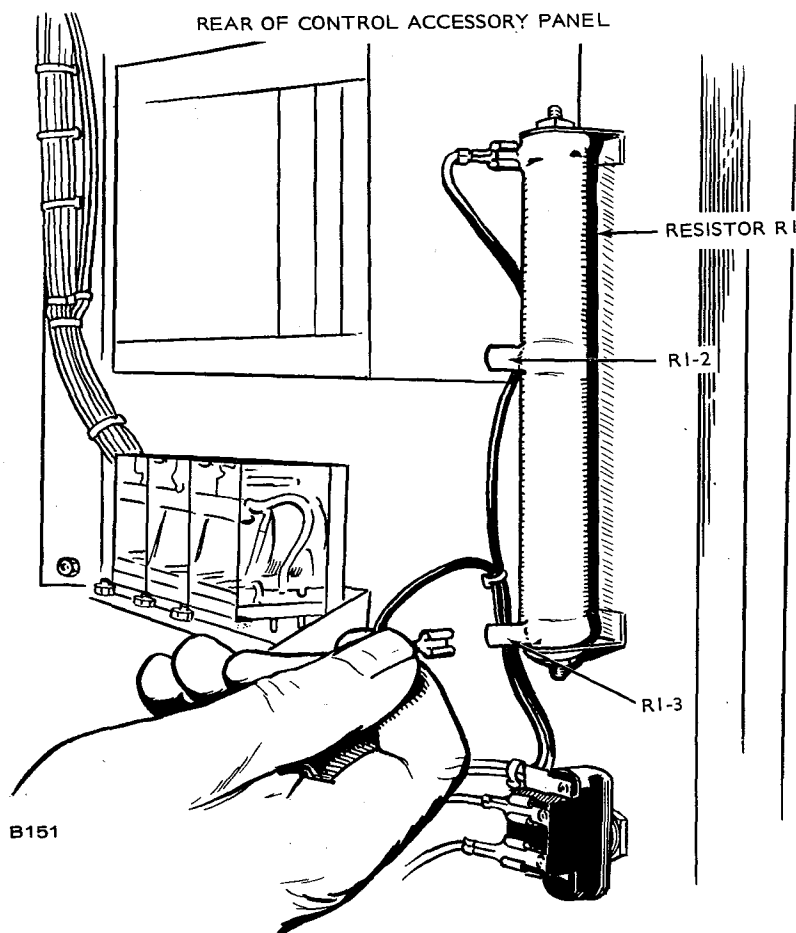

FIGURE 8. CHANGING RESISTOR R1 TAP SETTING
7. Remove the wire lead from resistor R1 terminal R1-3 and connect to terminal R1-2. See Figure 8.
7. Remove the wire lead from resistor R1 terminal R1-2 and connect to terminal R1-3. See Figure 8.